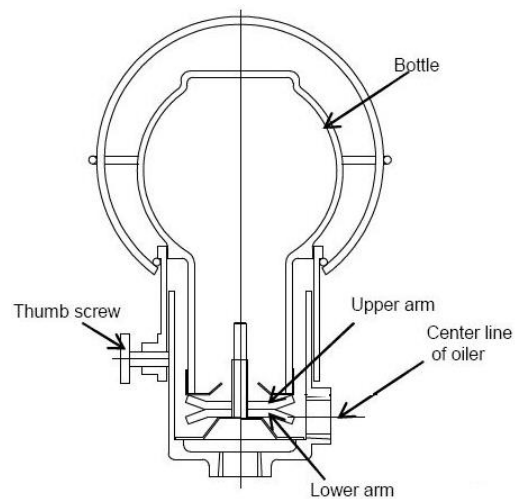

Figure 5-4
- b) Release thumb screw and remove bottle. Establish a measurement from the center line of the oiler connection in the bearing housing to the upper cross arm of 6 mm (0.24 in.); this can be obtained by completely screwing down the lower arm as illustrated in figure 5-4